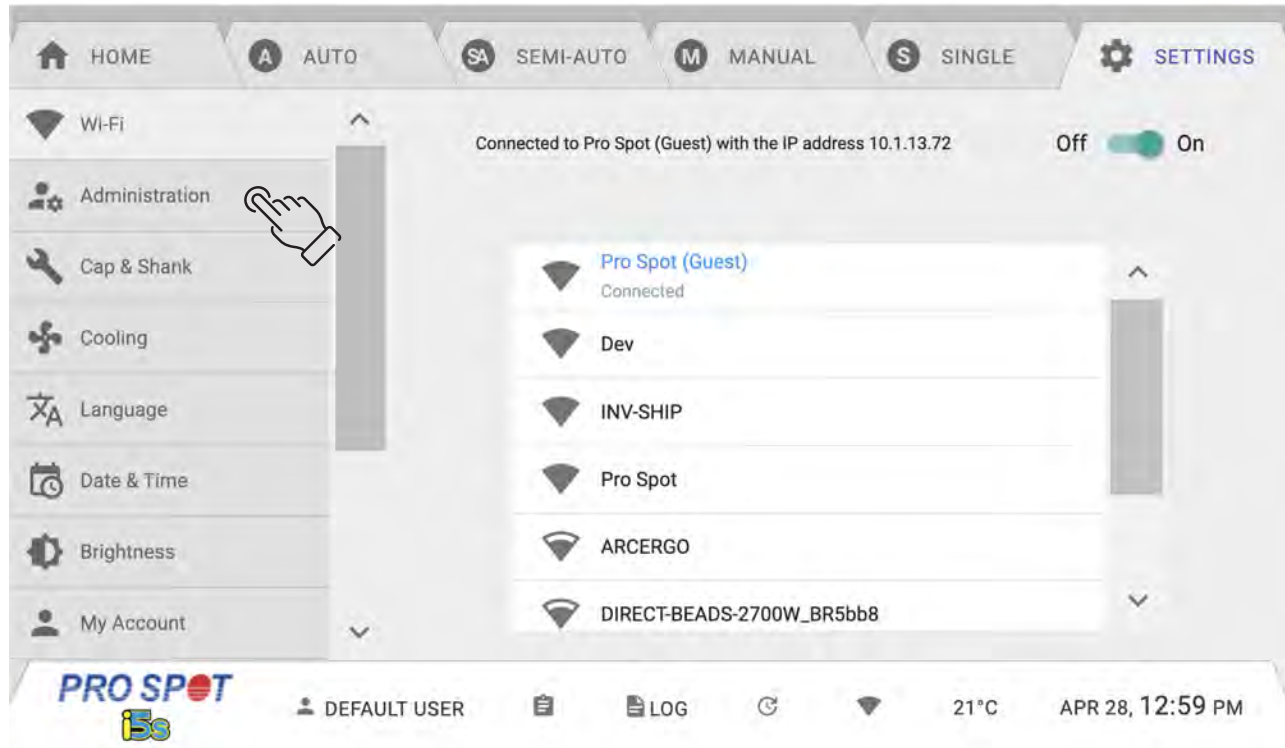

Figure 4.21
2. Once you're on the Setting tab, select Administration (Figure 4.21).